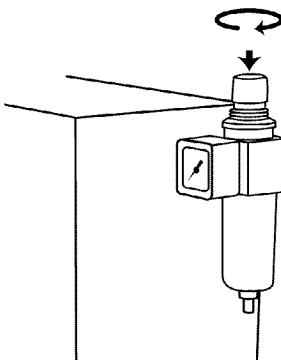

Figure 6
- When the pressure on the air regulator gauge is set to 65 psi, lock the knob in position by firmly pushing down on it. (See Figure 6)